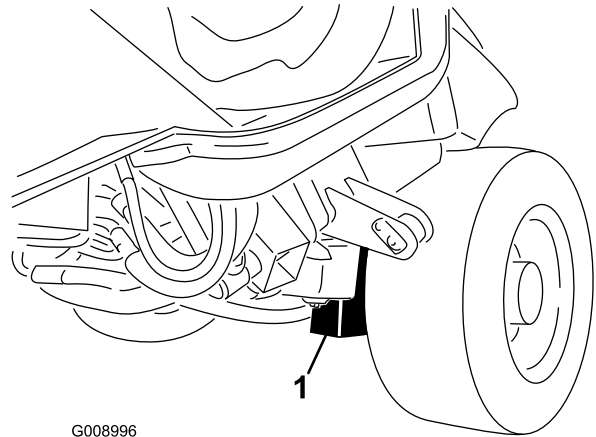

Figure 37
- On the front of the machine on the frame on the inside of each drive tire (Figure 37).